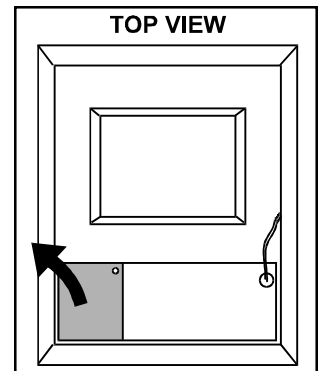

Figure 5.
4. Remove the two screws securing the left vestibule cover (see Figure 5). The cover can be discarded.